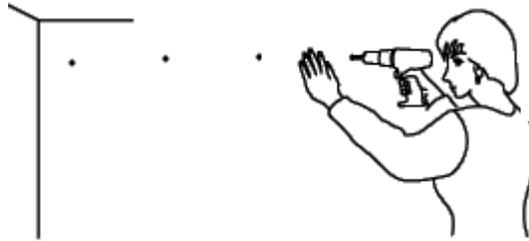

Fig. A-2
5. (Fig. A-2) Drill hole locations marked using the correct drill bit listed above. Should you come in contact with wood studs, stop and mark the hole with an "X". After drilling all other holes come back and drill holes marked with an "X" using the 1/16" bit for pilot holes for the wood screws.